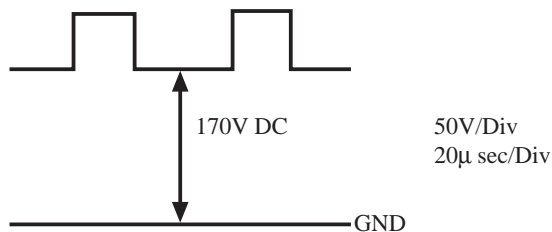

Fig 2-1
- (1) Short the IC501 Pin2 and Pin5 (or 11) and set the screen in single horizontal line.
- (2) Set the TV to the external input mode (no input).
- (3) Connect an oscilloscope to TP901 (JW901) Pin9 of S901 (on the NK C.B.).
- (4) Adjust SFR302 (Sub-bright) so the voltage at TP901 (JW901) Pin9 of S901 is 170 ± 5 VDC. (See Figure 2-1)
- (5) Adjust the SCREEN VR (FBT) so that a horizontal line begins to appear at the center of the screen.
- (6) Release the short-circuit point.